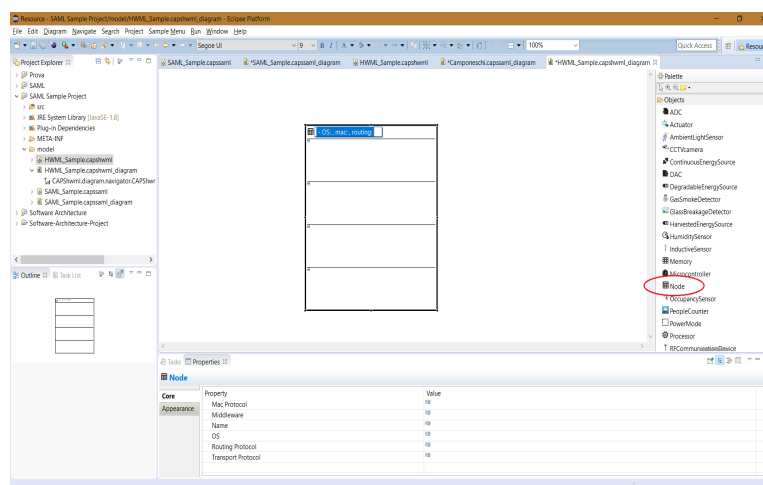

Figure 3.3: Creating a deployment node
- Now, from the **objects** view on the right, select **node** and create it on the screen (figure 3.3);